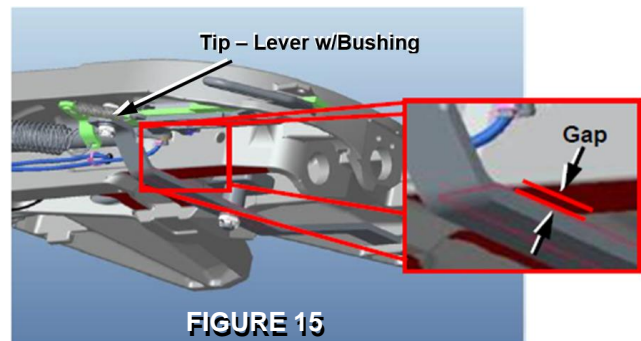

FIGURE 15
A. The gap MUST be less than 8mm between the top of the lever w/bushing and the topplate casting as shown (see figure 15).